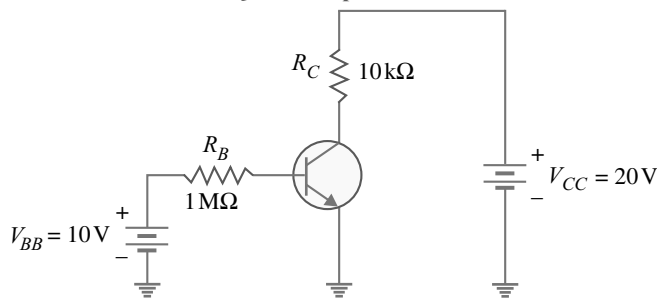

Fig. 6.82
17. Determine the intercept points of the d.c. load line on the vertical and horizontal axes of the collector curves in Fig. 6.82. [2 mA; 20 V]